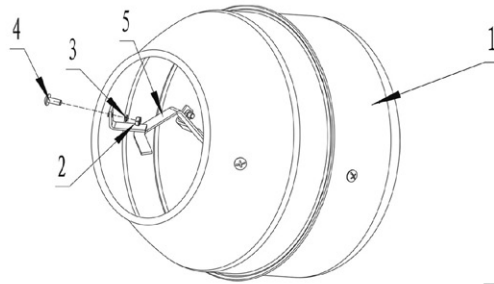

Fig.6
Secure the mixing paddle (5) to the inner drum (1) with nuts (2), washers (3), screws (4). (Fig.6)